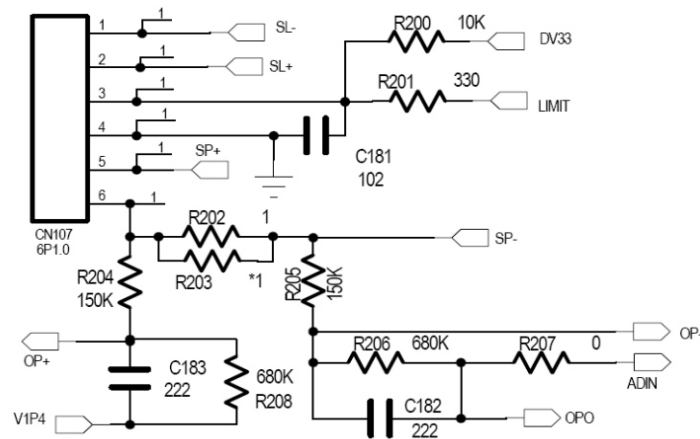

Figure 3.2.7.1 Main axis control circuit diagram
1. Main axis control circuit is shown as in the following figure 3.2.7.1: